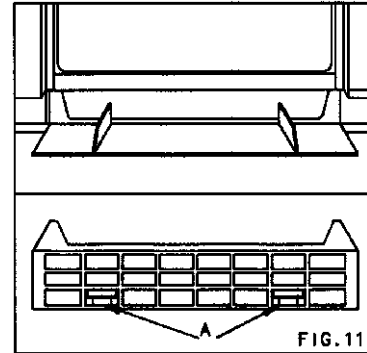

FIG. 11
- Remove the ventilation grid by acting on the fixtures as shown in **Figure 11-A**.